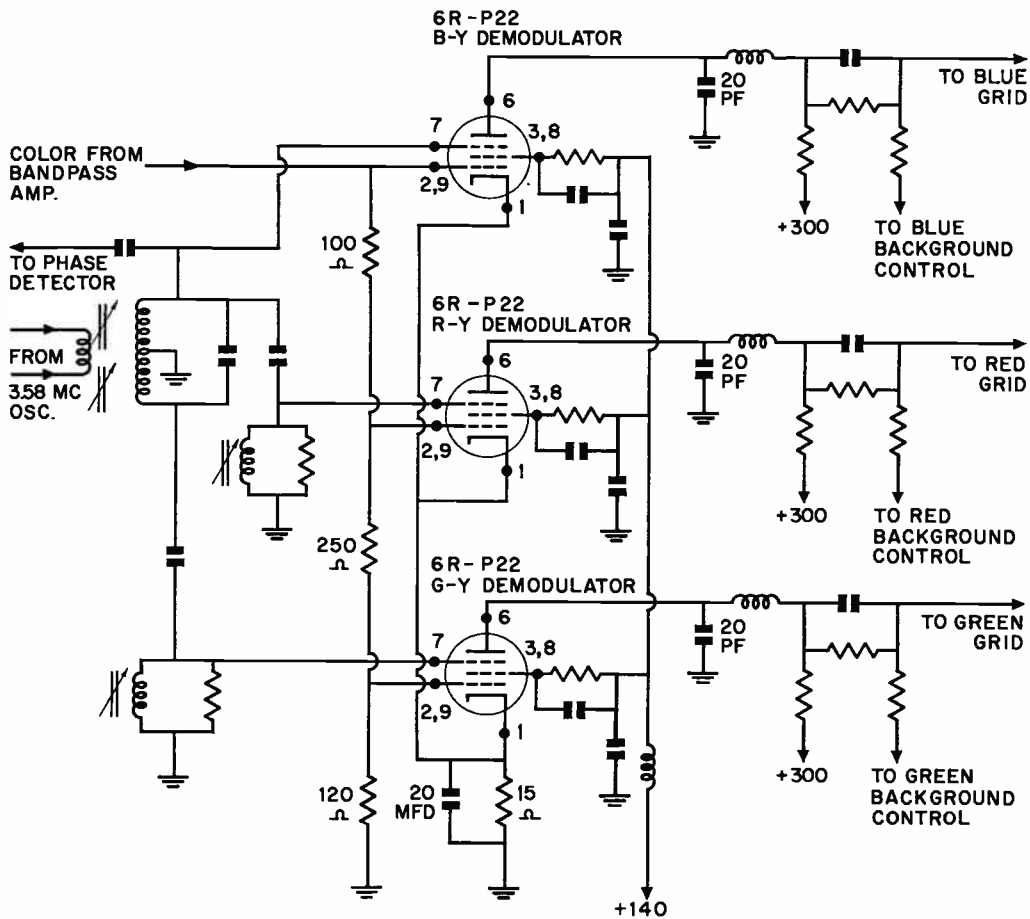

Fig. 25. Demodulator section of Sears 16-inch imported color TV.
The schematic diagram in Fig. 25 shows the demodulator section of an imported 16 inch color TV receiver. In this circuit, three demodulator stages perform high-level demodulation on the three color difference axes. All three color difference signals are recovered by the demodulators without the use of matrixing circuits. The recovered color difference signals are filtered and applied directly to the grids of the picture tube without going through color difference amplifiers. Each demodulator stage uses a pentode vacuum tube with the tube type designation 6R-P22.
The chroma signal from the bandpass amplifier is applied to the control grids of all three demodulators. A voltage divider in the grid circuits proportions the relative amount of chroma signal applied to each demodulator. From the resistor network in Fig. 25, you can see that the B - Y demodulator receives the full chroma signal. The control grid of the R - Y demodulator is connected to the junction of the 100-ohm and the 250-ohm resistor in the network. Therefore the R - Y demodulator receives a smaller chroma signal than the B - Y demodulator.
- (r) In the demodulator circuit in Fig. 25, how are the correct relative amplitudes of the color difference signals re-established?